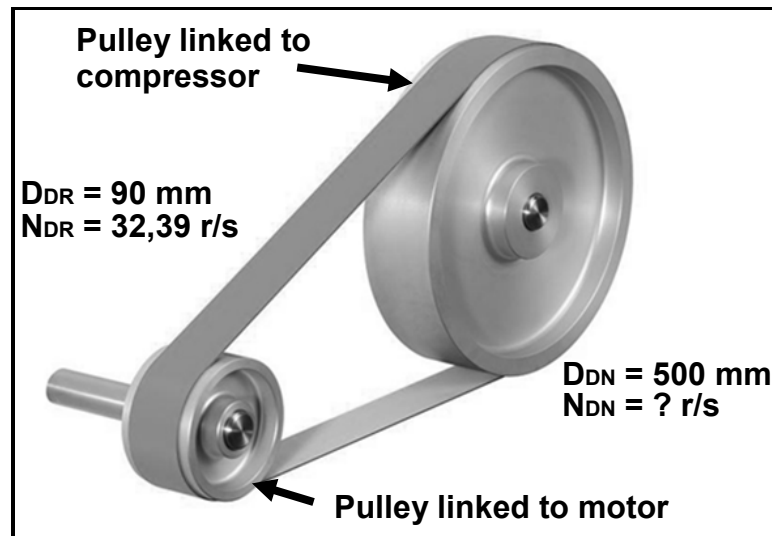

FIGURE 11.3
- 11.3 The belt drive system of a compressor is shown in FIGURE 11.3 below. The tensile force on the tight side is 1 900 N and on the slack side it is 450 N.